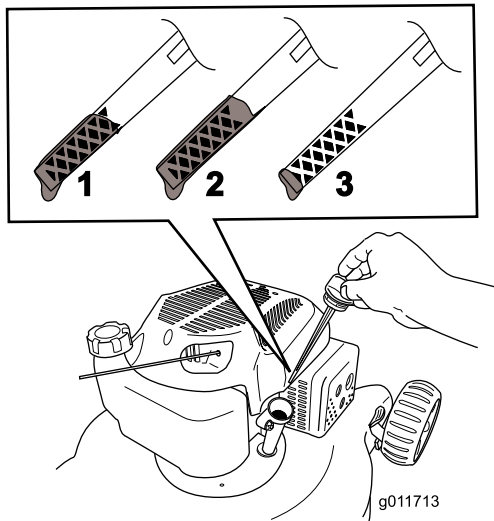

Figure 8
5. To determine the proper oil level on the dipstick, refer to Figure 8).
- Note:** Fill the engine crankcase with oil until the dipstick indicates that the engine oil level is correct as shown in Figure 8. If you overfill the engine with oil, remove the excess oil as directed in Changing the Engine Oil.